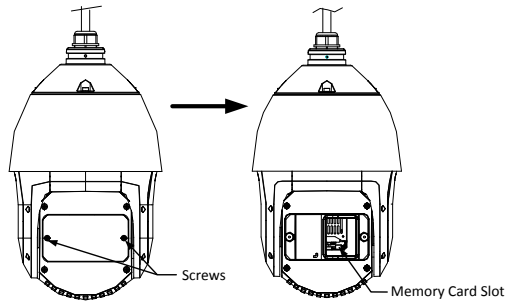

Figure 2-31 Memory Card Slot
- Refer to **Section 2.1.1 Wall Mounting** for wall mounting steps for DE5xxxI series (IR) speed dome.
- Refer to Figure 2-31 for memory card slot of DE5xxxI (IR) series speed dome.